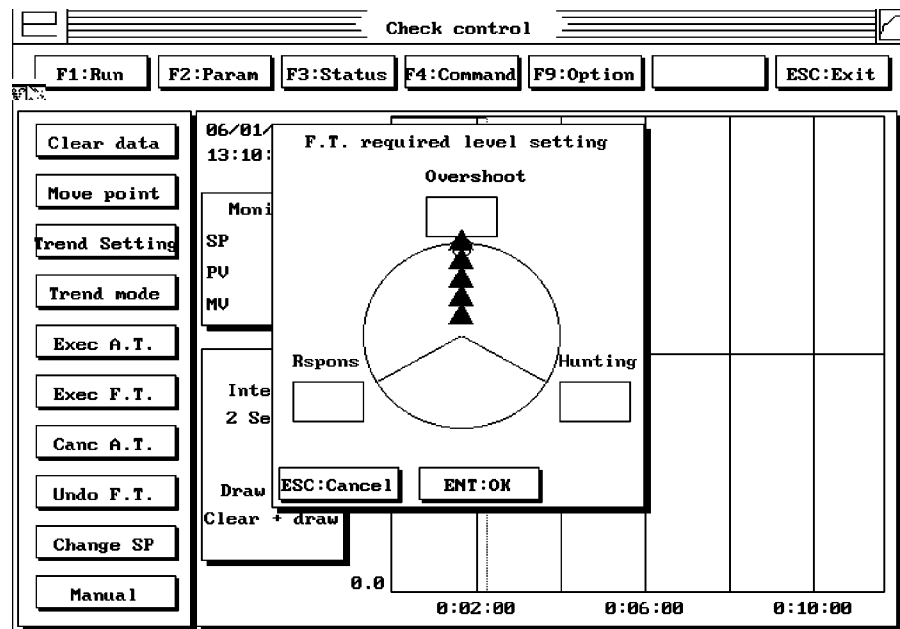

Figure 14
4. Enter the appropriate PID set number and select **ENT: OK**. A new pop-up window will appear Figure 14.